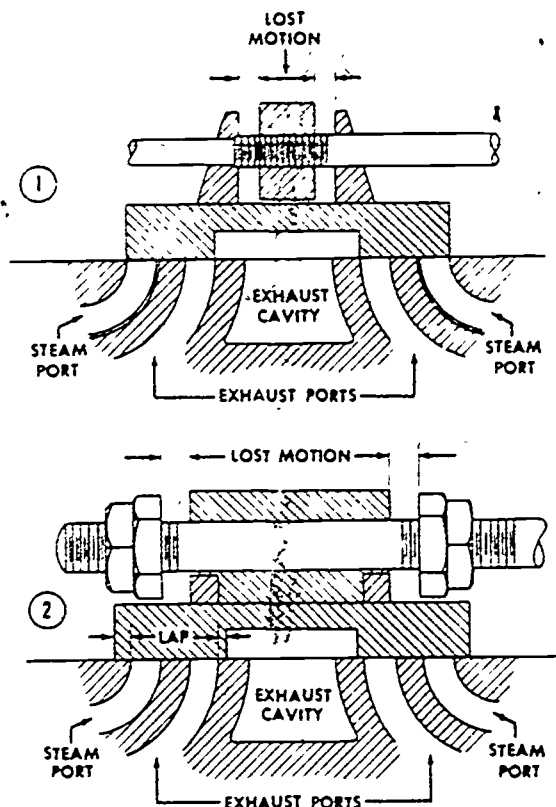

Figure 2-20. Two methods of providing lost motion in a duplex pump slide valve.
Steam end. Each end of a steam cylinder has two steam ports, as shown in figure 2-20. One of these ports admits steam; the other discharges it. The steam trapped in the cylinder when the exhaust stroke nears completion acts as a cushion to prevent the steam piston from striking the cylinder heads. Some pumps have small hand-operated valves on the side of the steam chest. These valves regulate the amount of cushioning by controlling the escape of the steam trapped in the cylinder. Maximum cushioning is obtained with the valves closed.
Lost motion. Lost motion is introduced in the valve gear to keep one piston in motion when the other is reversing at the end of its stroke. Figure 2-20 shows two methods of providing lost motion in a duplex pump slide valve. The valves are not fastened rigidly to the stem. This permits the piston to move during a portion of its stroke without moving
Stroke adjustment. Install a stroke indicator if one is not already present. The indicator may consist of a sheet metal pointer attached to the piston rod crosshead. Two marks are made on the pump frame. One mark lines up with the pointer when the pump is at one end of its full stroke; the other mark indicates the correct position at the opposite end of the stroke. In the absence of specific instructions for stroke adjustment, refer to figures 2-20 and 2-21 and use the following procedure:
- (1) Place piston rod at midstroke position.
- (2) Open valve (steam) chest cover.
- (3) Place slide valve at midposition.
- (4) Set and lock each adjustable collar at an equal distance from the tappet. (This lost motion spacing should be equal to one-half the width of the steam port opening.)
- (5) Start the pump. (If the stroke is too long, reduce the lost motion spacing; if it is too short, increase the spacing. Test with cushion valves wide open and pump operating at very low speed.)
- (6) On a pump slide valve designed like that in figure 2-20(1), lost motion can be adjusted by changing the block to one with a different thickness.